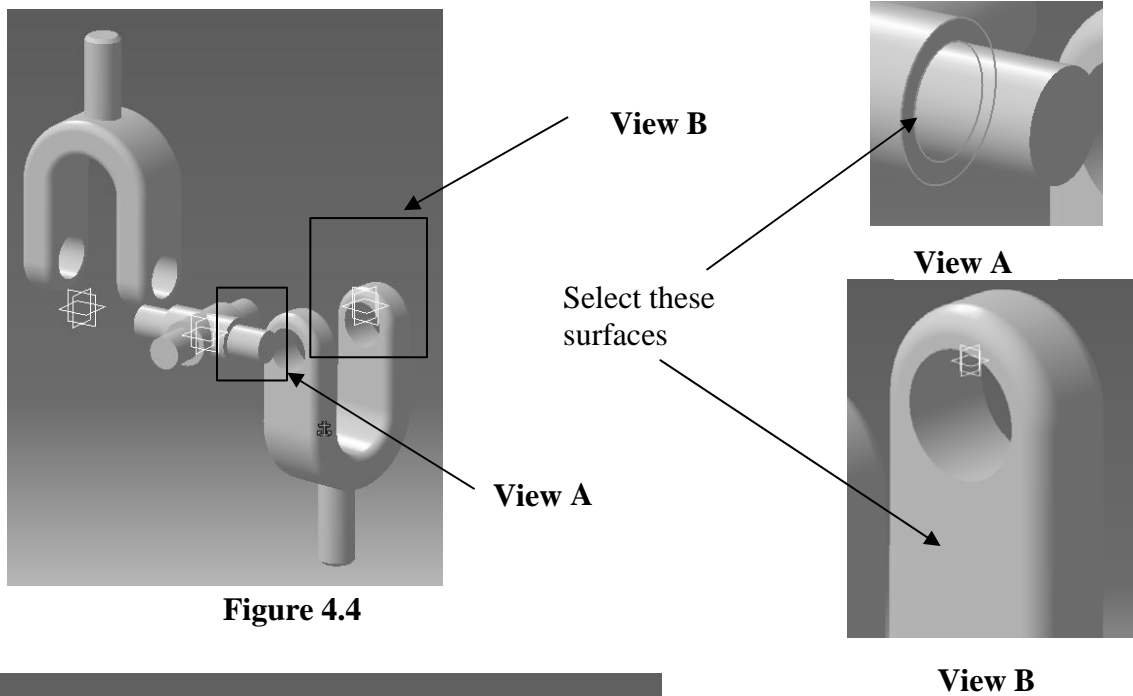

Figure 4.4
- 2.2 Select the contact constraint tool . This tool will place the selected surfaces of one part onto the selected surface of another part. Select the surfaces shown in figure 4.4 views A & B. The Contact constraint symbol will appear on each surface selected. A line connecting the two surfaces will show that they share a common plane as shown in figure 4.5